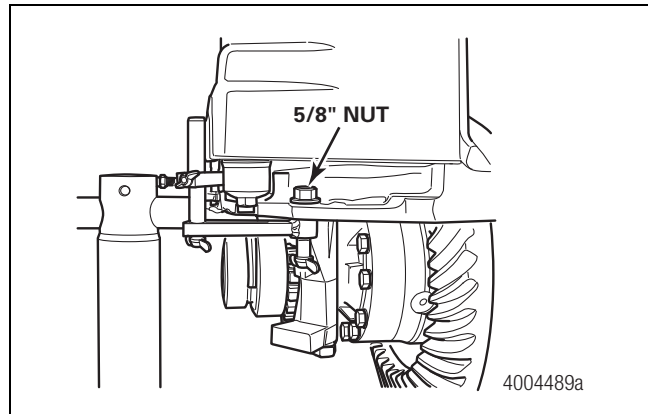
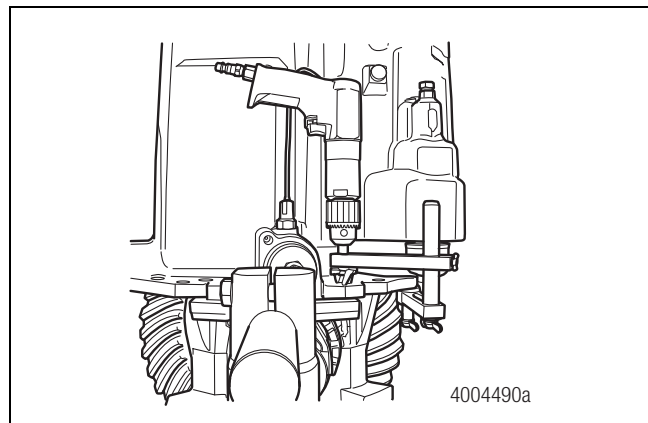

Figure 4.23
Figure 4.24
- If the carrier is equipped with a driver-controlled differential lock (DCDL): You must use a 5/8-inch nut to secure the jig to the carrier housing. Figure 4.23 and Figure 4.24.